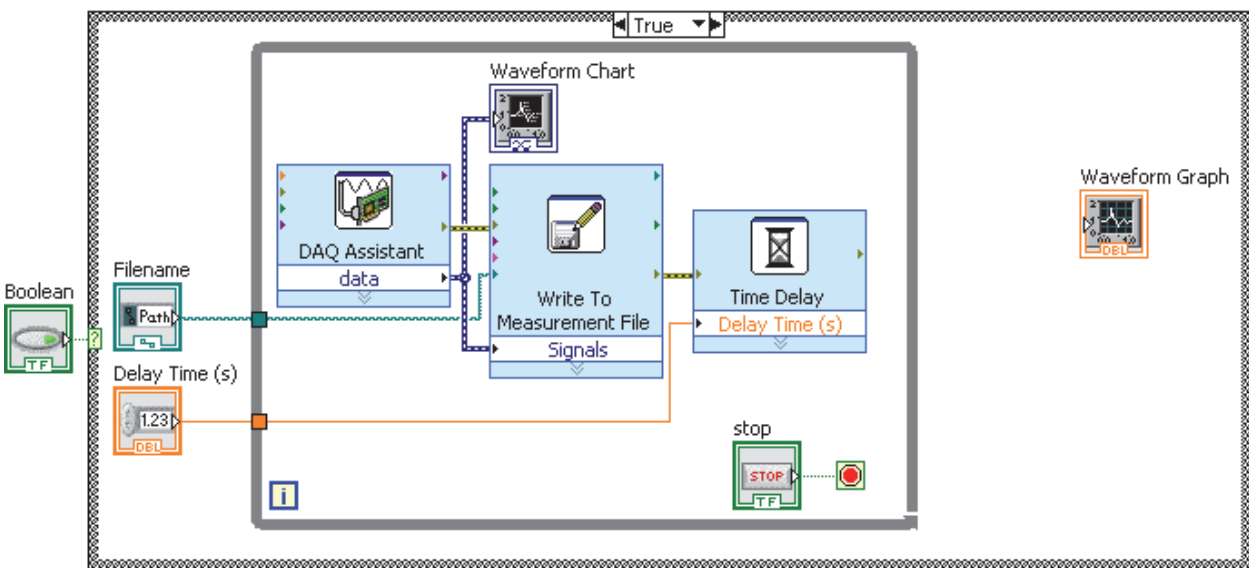

Figure 1.4.15 Example VI to continuously measure analog input data showing wiring
29. Wire terminals together as shown in Fig. 1.4.15. Wire the data output terminal from the DAQ Assistant to the waveform chart and the signals input terminal of the “Write to Measurement File” Express VI. Notice that the waveform chart changes to the dynamic data type when the wire is connected. You can start wiring from a wire that already connects two terminals.
30. Wire the error input and output terminals between the Express VIs as shown in Fig. 1.4.15.